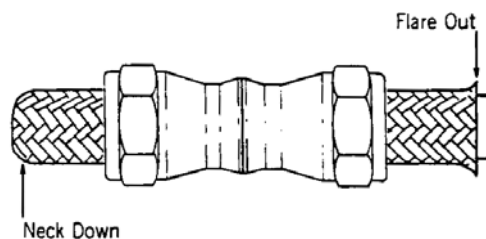

Figure 13 - Placing Sockets On Hose
Step 2. Install sockets (size -4 through size -10). Place two sockets skirt-to-skirt in vise (see Figure 13), and work hose through sockets with a twisting pushing motion. Installing sockets over “neckdown” end of hose will facilitate assembly.